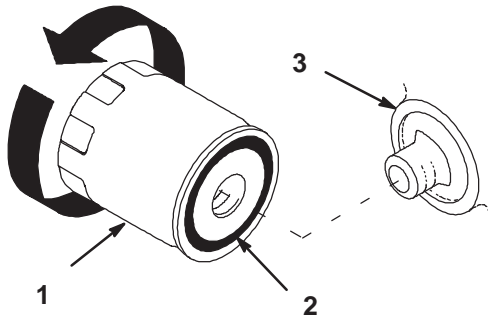

Figure 37
2. Remove the old filter and wipe the filter adapter (Fig. 37) gasket surface.
4. Apply a thin coat of new oil to the rubber gasket on the replacement filter (Fig. 37).
5. Install the replacement oil filter to the filter adapter. Turn the oil filter clockwise until the rubber gasket contacts the filter adapter, then tighten the filter an additional 1/2 turn (Fig. 37).